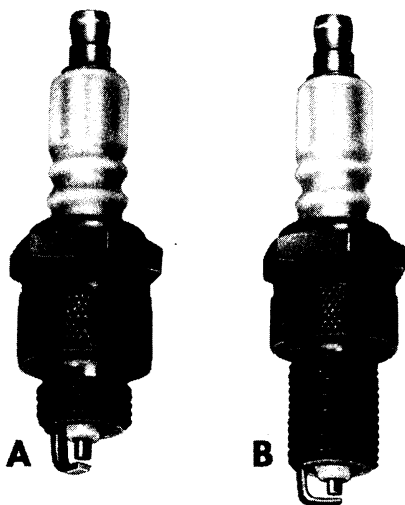

Fig. 26—Spark Plugs
**NOTE:** Spitfire engines are equipped with  $\frac{3}{8}$  inch base plug, as shown in Figure 26, A. Fire Power engines have a  $\frac{3}{4}$  inch base, as shown in Figure 26, B. Both plugs use an extended electrode for better efficiency and performance.